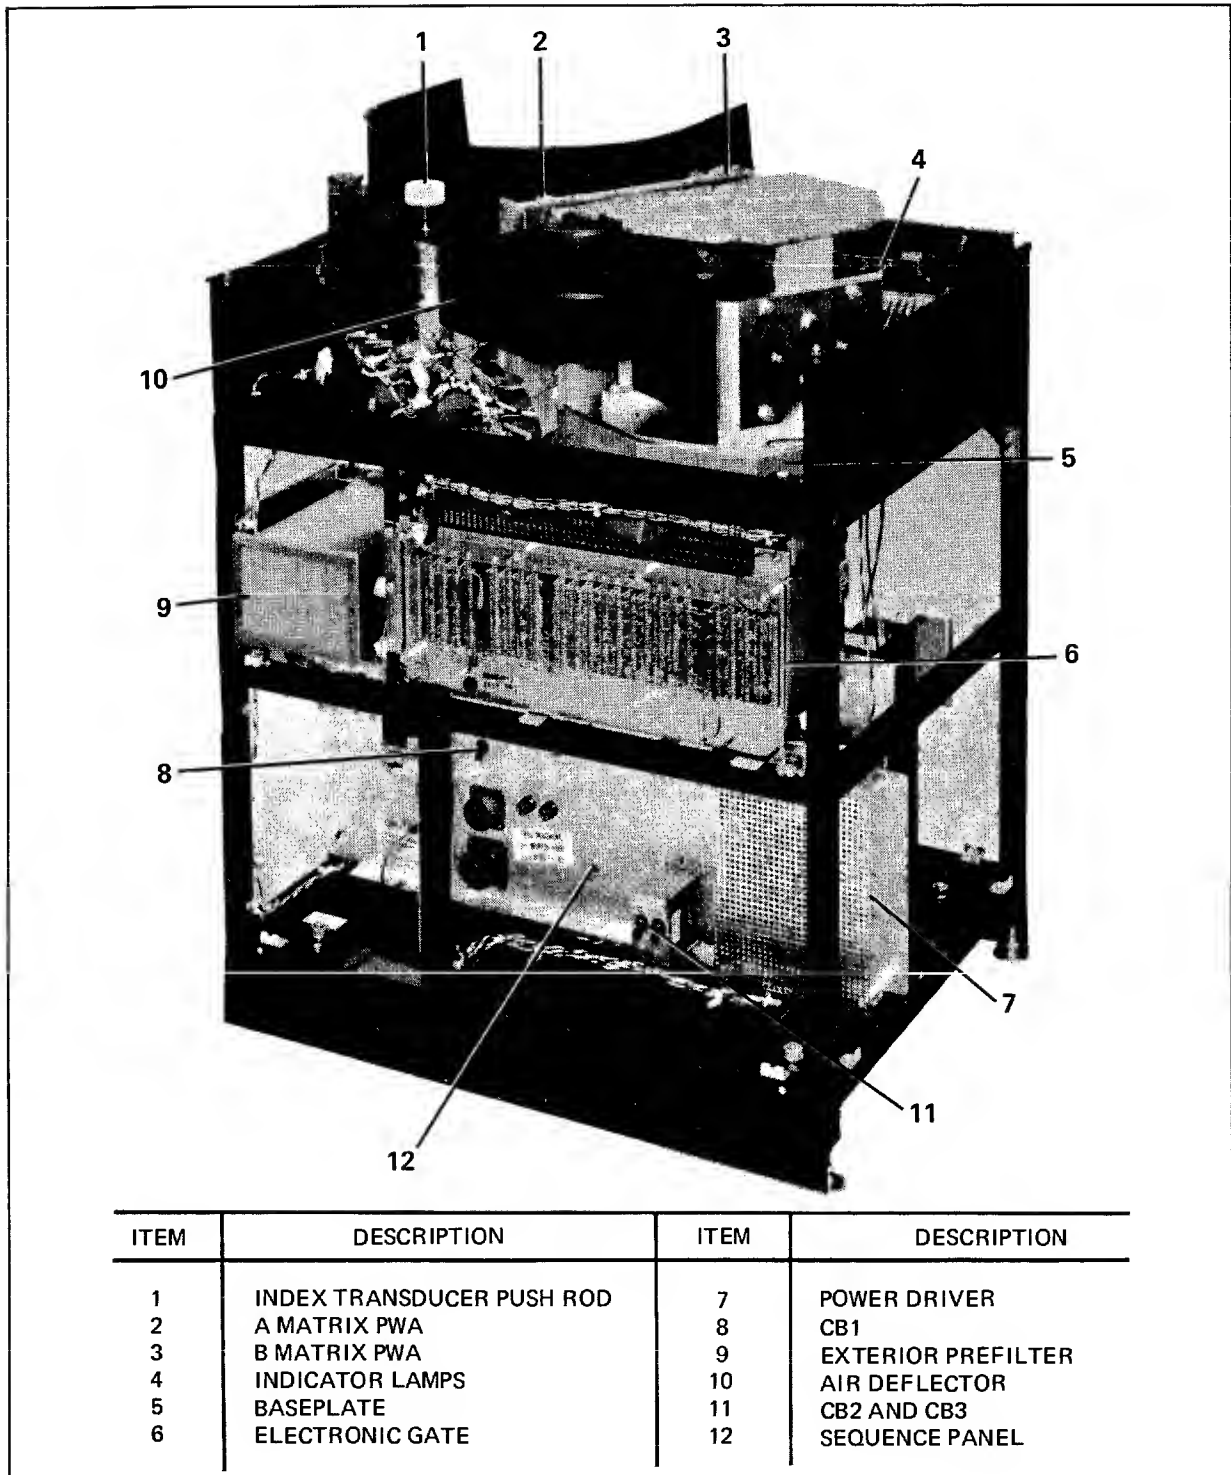

Figure 3-18. HP 2888A Rear View, Covers Removed
3. Open the electronic gate shown in figure 3-18 and check all printed-wiring assemblies (PWA's) and paddle boards to ensure that all are securely seated in their respective sockets.
6. Check the electromagnetic actuator coil resistance across terminals 15 and 16 of PD1 on the rear of the power driver to ensure that no shorts or opens exist and to verify that resistance is within 2.0 to 2.5 ohms. See figure 3-18.